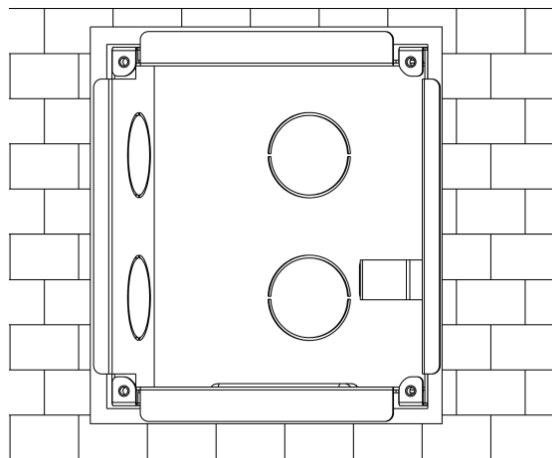

Figure 2
- Step 2. Embed metal bracket into wall until its four peaks lean against the wall. See Figure 2.